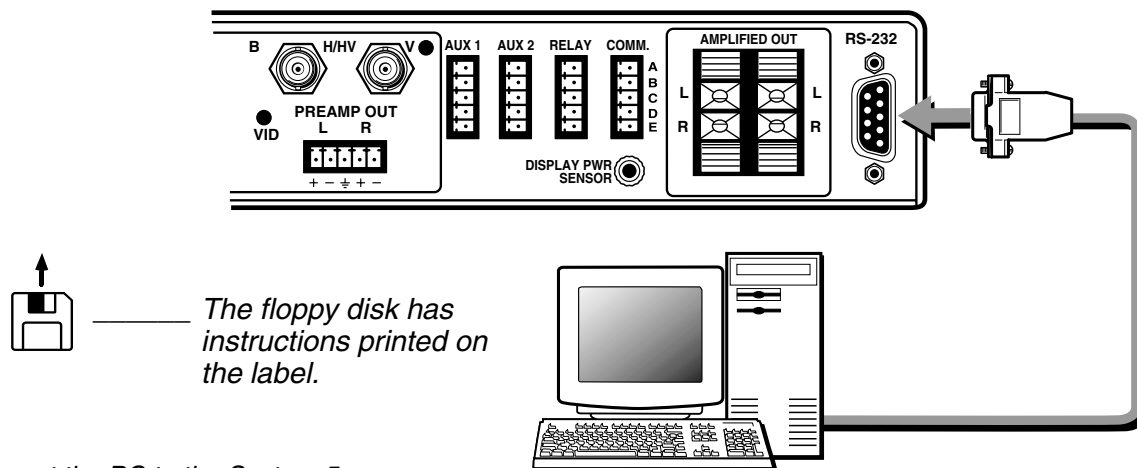

Figure 4-1. Connect the PC to the System 5.
1. Connect the PC's Comm port to the RS-232 port on the System 5, as shown in Figure 4-1.